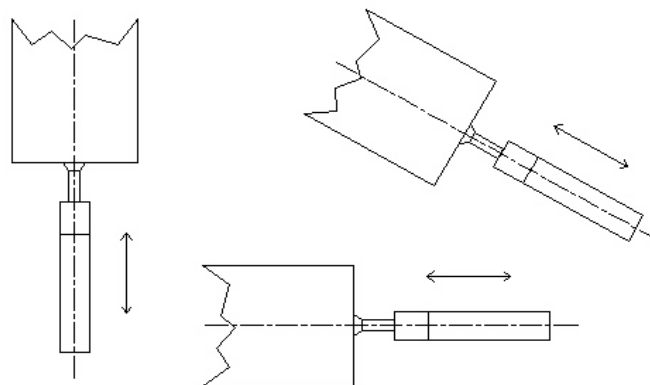

Fig. 2
- 2) During the measurement, the SENSING HEAD along the adapter has to be on a line with measuring object. (ref. Fig. 2)